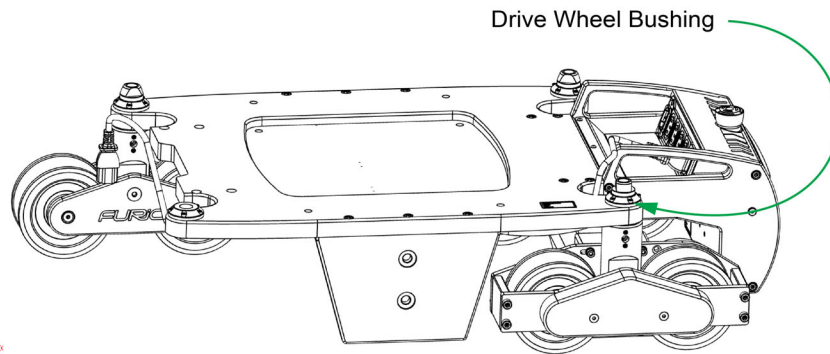

Figure 12 - Removing the Drive Wheel Nut Screws
2. Remove the five screws that secure the drive wheel nut shown in **Figure 12**.